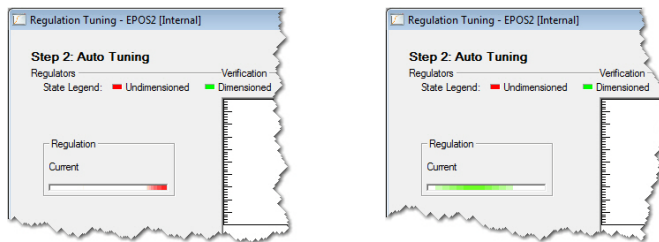

Figure 3-33 Regulation Tuning – Identification (left) / Verification (right)
- First, control parameters will be identified – during this process, the motor shaft will oscillate, the respective red status bar will be moving (→Figure 3-33, left).
- Then, identified control parameters will be verified by evaluating their step response – during this process, the motor shaft will oscillate, the respective green status bar will be moving (→Figure 3-33, right).